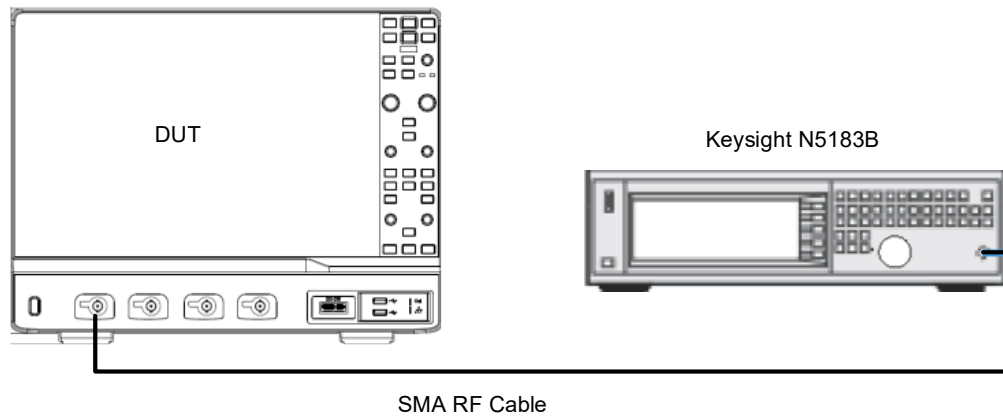

Figure 10 Test setup for BW/ Timebase accuracy/ Trigger sensitivity
**Note:** SMA RF cable in Figure 10 should be a high-performance coaxial cable with excellent frequency response from DC-8 GHz, good impedance control and low VSWR.